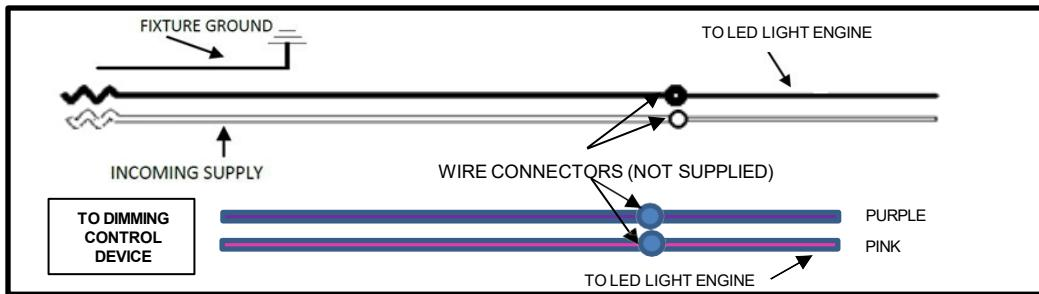

FIG 5: WIRING DIAGRAM
1. Using a screwdriver (not supplied), remove access plate as shown in Figures 3 & 4, with grid power OFF make electrical connections from supply and properly ground as local codes dictate. See Figure 5. For EXAM enabled luminaires, general and exam line in shall be on the same circuit.